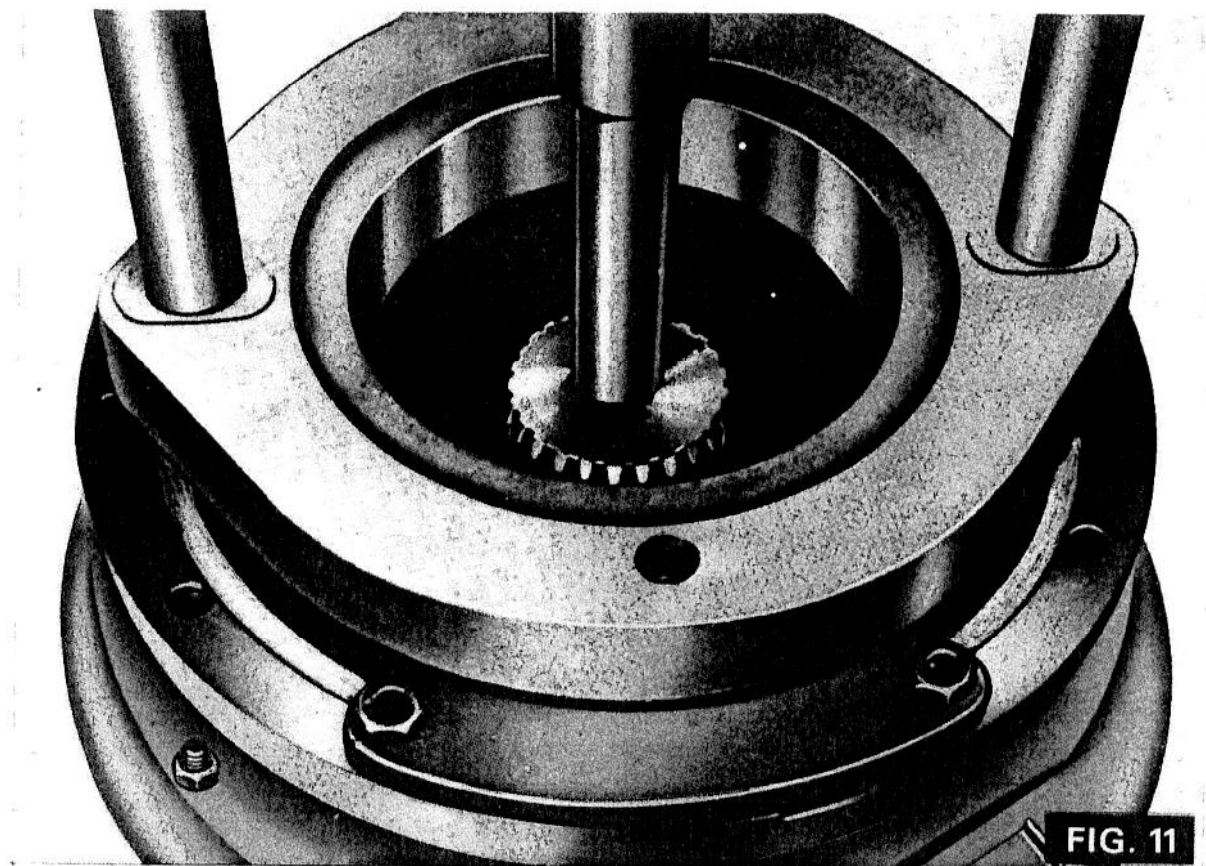

FIG. 11
4. (Fig. 11) Assemble tool MF200 and 200 - 24 onto the drive cover and draw the drive cover and roller bearing off the axle shaft.